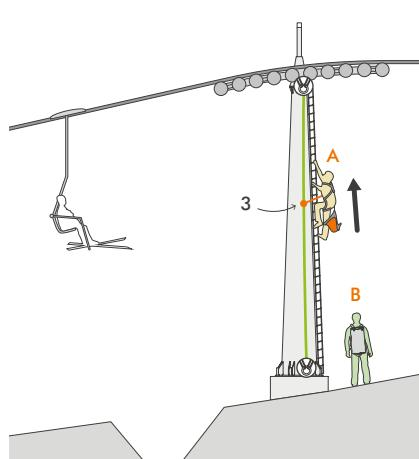

Fig. 1
1) Operators A and B, wearing the helmet (1) and the complete harness (2), climb up the pylon uphill from the chair/cabin from which people are to be evacuated, each protecting themselves with a fall arrester device (3) (Fig. 1).
1) Gli operatori A e B, dopo aver indossato casco (1) e imbracatura completa (2) salgono sul traliccio, a monte delle postazioni da evadere, entrambi assicurati da un dispositivo anticaduta (3) (Fig. 1).